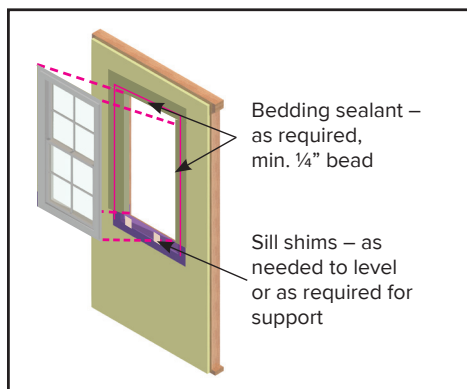

Figure 3. Apply sill shims and bedding sealant, set window into center of opening, and temporarily secure with flange nail.
- Apply the window manufacturer's recommended bedding sealant (min. ¼" bead) to the rough opening perimeter approximately ½" to ¾" from the edge of the rough opening (see Figure 3). **DO NOT** apply bedding sealant to sill flange where sill pan flashing is used (see Step 2, Item c).
- Where sill shims are required by the manufacturer or where the sill is not level, shims may be placed and tacked into level position prior to setting the window unit. See Figure 3.
- With the window closed and in locked position, set into the center of the rough opening and fasten the center nail hole of the top flange to the rough opening with the manufacturer's recommended flange fastener, or initially secure as otherwise recommended by the manufacturer (See Figure 3). Verify that the required gap between the window head and header is present.